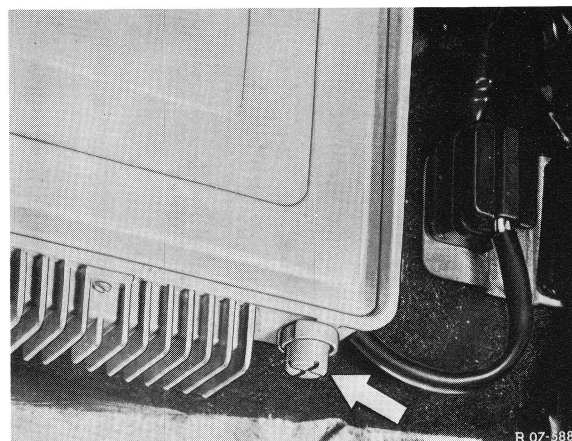

Fig. 2
- 5 Adjust to specified speed with idling speed air screw (2).
- 6 Check exhaust gas value. If required, readjust with adjusting screw on control unit (arrow in Fig. 2).